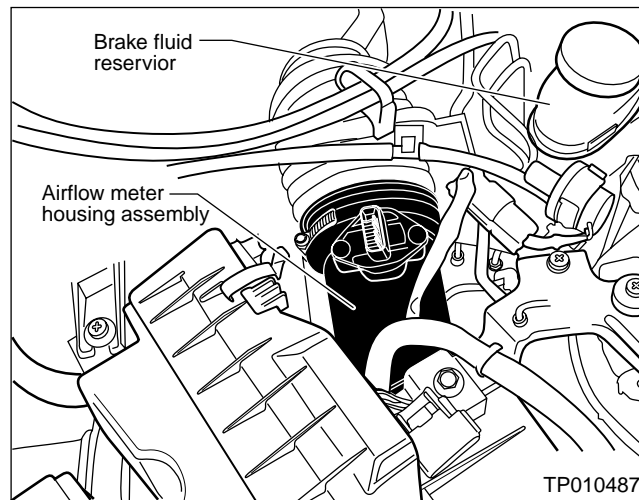

Figure 1
3. Install the new complete airflow meter assembly (see Figure 1). Refer to the Parts Information table for the new airflow meter assembly part number.